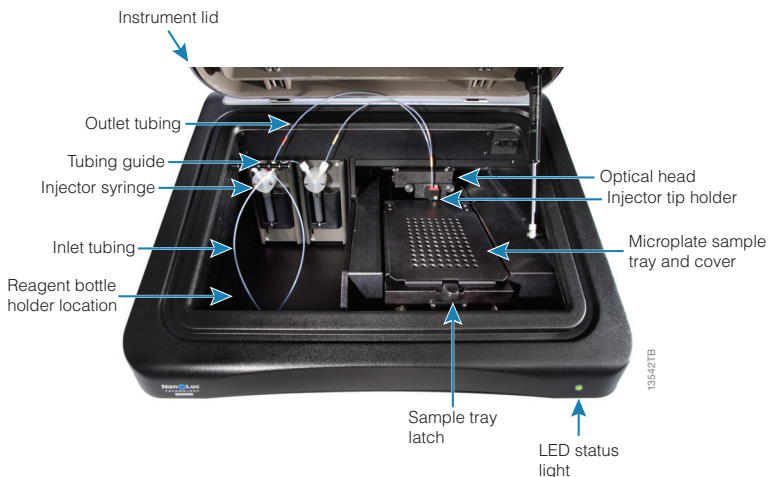

Figure 5. Interior view of the GloMax® Navigator Instrument
4. Ensure that the instrument On/Off switch is in the OFF position (Figure 5).
5. Using the provided USB cable, connect the Tablet PC to the USB port on the back of the instrument (Figure 5).
- Open the door of the instrument and gently press the Microplate Sample Tray latch to release the tray cover (Figure 5). If a lid is present, remove from plate. Insert an opaque 96-well plate such that well A1 of the plate corresponds to the label “A1” on the plate tray (Figure 8).